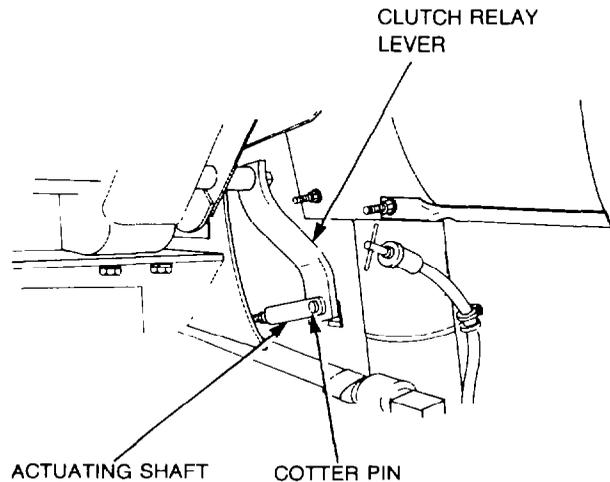

Figure 322 — Clutch Actuating Shaft — Installation
- v. Position the clutch actuating shaft yoke on the relay lever, then install the cotter pin and secure in position with a split pin (see Fig. 322).